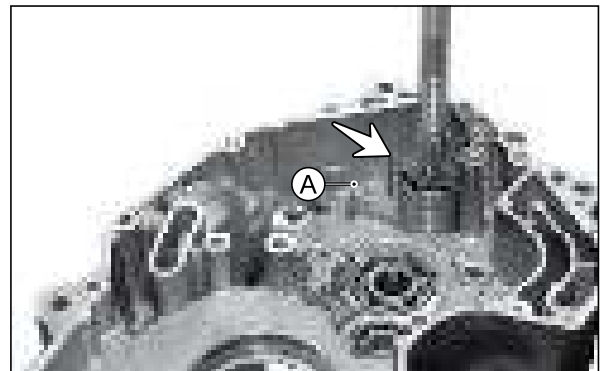

Fig. 3.193
- Assemble shaft kick starter, guide kick starter spring, spring kick shaft return and shim in the reverse order of dismantling. (Fig. 3.193)